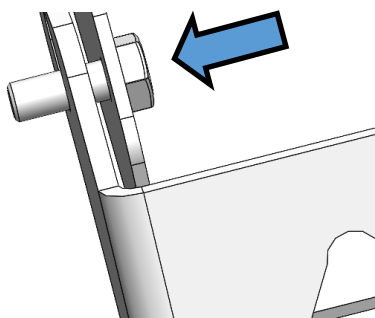
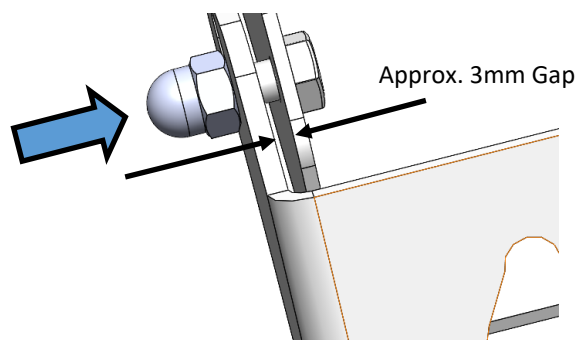

Fig . 2 .
Fig . 3 .
Step 2 : Taking 1x M6x16 HT set screw place this through one of the round holes, with the thread through the slotted hole in the bracket. See Fig. 2. The thread should be exposed outwards, where you can fix 1x M6 dome nut. Only hand tighten this nut with a 10mm spanner, or damage will occur to the bracket. See Fig.3. There will be a gap of approximately 3mm per side.
Step 3 : On the outside of the heater, you will notice that the circular coach bolts will be loose, you will need approximately a 5mm gap, from the body of the heater to the underside of the bolt head, to allow the extended shelf side bracket to slot into place. See Fig. 2.